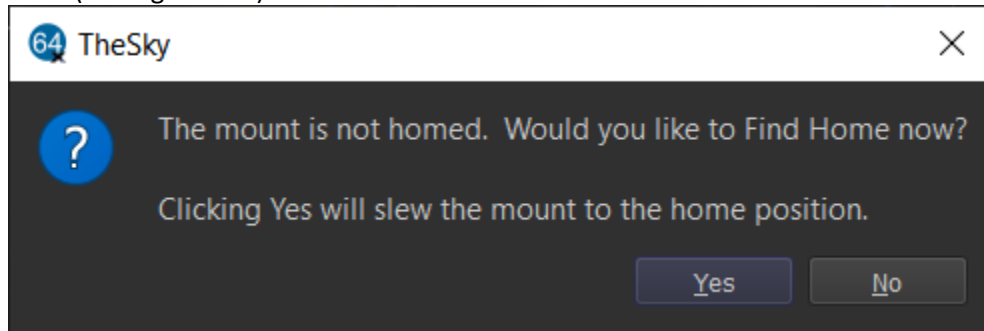

Figure 106: Slewing the mount to the home position is *not* required when measuring the motor index angles.
6. Click **Telescope, Connect**. When prompted if you want to slew the mount to the home position, click **No** (see Figure 106).